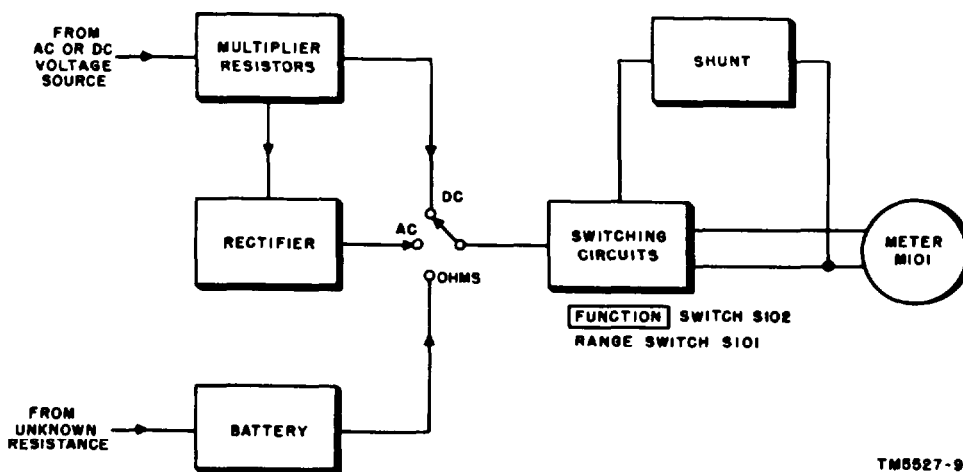

Figure 4-1. Block diagram of multimeter.
(fig. 4-1)
- (1) The TS-352B/U ohmmeter circuit used for testing the multimeter requires considerable current for its operation; the lower the range, the greater the amount of operating current. Therefore, do not attempt to check the continuity of meter M101 suspected of being open. Meter M101 has a 50-microampere movement and will be damaged by the excessive current flow.
- (2) Before concluding the values of resistance in a circuit under test, always consult the schematic diagram (fig. 8-3) or the simplified diagram showing the circuit concerned (fig. 4-1 through 4-6). Switches S101 and S102 place resistors in series and in shunt with meter M101 and, before final ohmmeter readings can be considered conclusive, these series and shunt circuit values must be considered. It is good practice to unsolder a resistor from the circuit before measuring its value. This action does not apply to an open series multiplier resistor, such as resistors R101 through R105 and resistors R106 through R111. These resistors are series resistors with no shunting circuits; also, their continuity can be determined by using the appropriate multimeter jacks as points of connection by the testing multimeter.
- (3) Voltages across circuits being checked for continuity can damage the ohm-